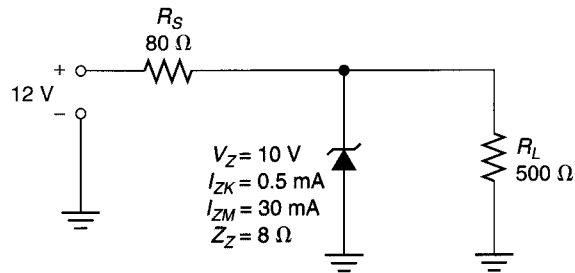

FIGURE 3.63
47. Determine the values of  $I_T$ ,  $I_L$ , and  $I_Z$  for the circuit shown in Figure 3.63.
48. The 12 V input to Figure 3.63 has 770 mVpp of ripple. What is the output ripple for the circuit?